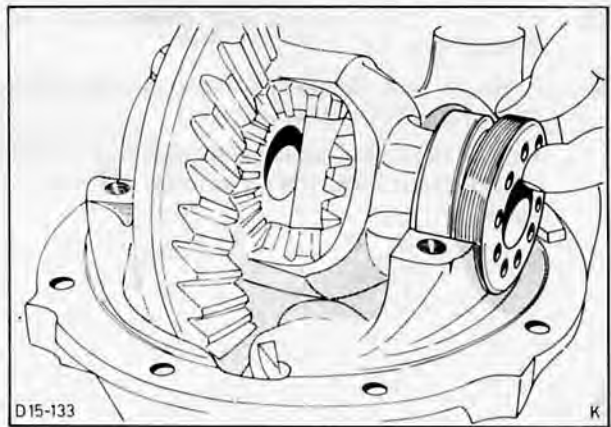

Fig. 122. Insert differential with ring nuts in housing
34. Insert differential assembly with both adjusting nuts in housing, Fig. 122. Fit bearing caps, tighten bolts, slacken and then do up again finger-tight. Adjusting nuts must bear on the bearing cups.